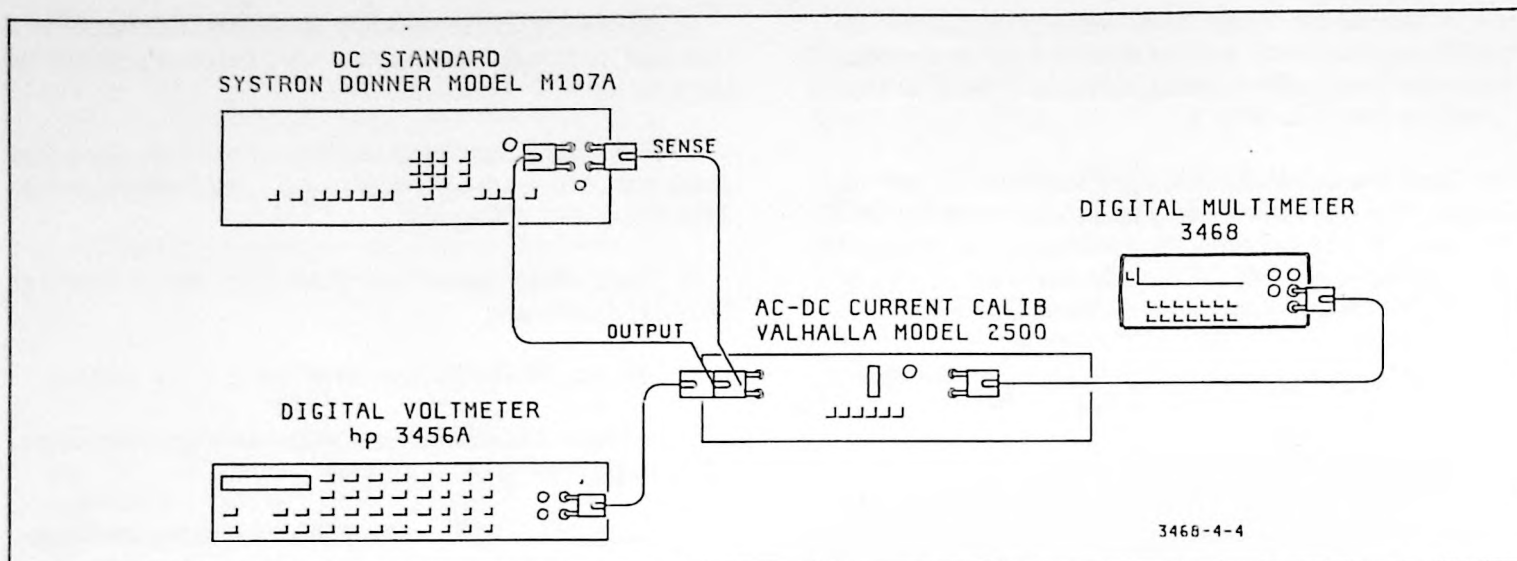

Figure 4-4. DC Current Accuracy Test
h. Connect the DC Volts Standard and Digital Voltmeter to the AC-DC Current Calibrator as shown in Figure 4-4.